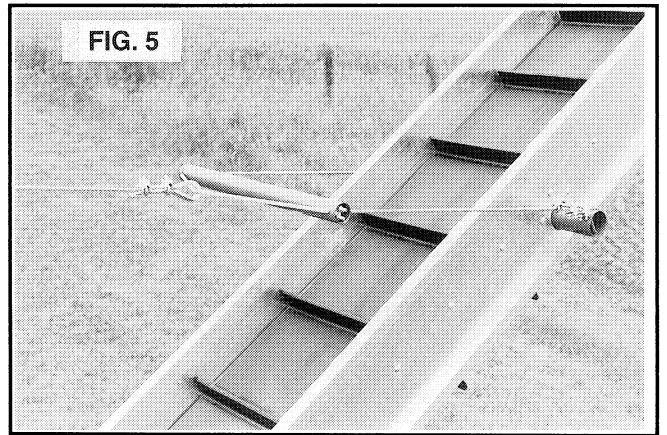

FIG. 5
Let all but about three turns of cable out of the winch. The cable is attached to the elevator hanger as shown in Fig. 5. Place the winch on top of the mast as shown in Fig. 6. Bolt the winch to the mast with two 3/8" x 1" hex head bolts, nuts and lockwashers.
When the stripper plate spacing is adjusted to your satisfaction, tighten nuts (H) on adjusters locking stripper plates in place. Leave the remaining nuts loose to adjust the belt guides (Fig. 5).